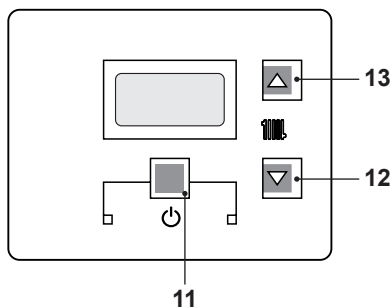
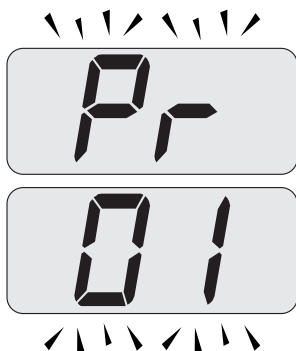

Fig. 8.3
Fig. 8.4
- Enter in "programming mode" by pressing keys 11 - 12 - 13 (Fig. 8.3) for 10 seconds at the same time until the letters **Pr** that alternate with code **01** are displayed on the LCD display, indicating that "parameter 01" (Fig. 8.4) has been activated.
- Press keys 11 and 13 (Fig. 8.3) at the
- By pressing key 13 three times, it is possible to change the value of parameter 05 from **00**=G20 to **05**=G31, which is ok for LPG gas.
- By pressing key 11 (Fig. 8.3) confirmation of the inserted value is obtained.
- Press keys 11 and 12 (Fig. 8.3) at the same time to exit without changing the value (return to the parameters list Fig. 8.5).
- Press keys 11 - 12 - 13 (Fig. 8.3) at the same time for 10 seconds to exit the "programming mode".